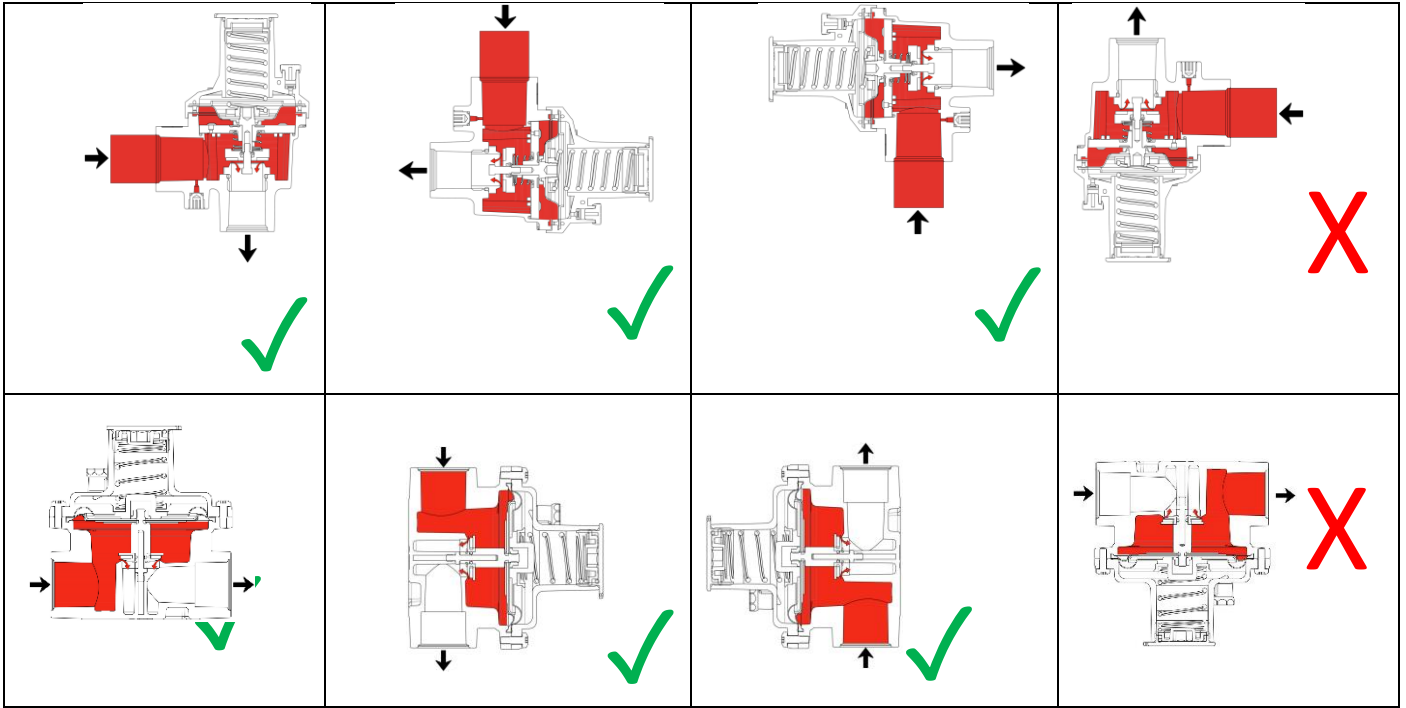

Figure 6.
- 14- The body of the relief valve (11) must be installed so that the arrow direction faces the atmosphere.
- 3- The product must be installed in a horizontal or vertical position with a tolerance of $\pm 5^\circ\text{C}$, in suitable installation positions as shown in Figure 6.